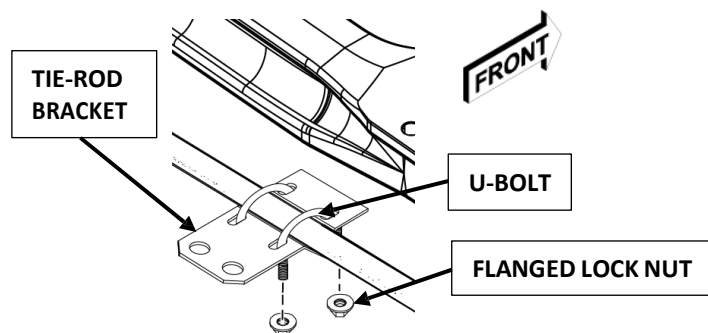

FIGURE 3. TIE-ROD BRACKET INSTALL TO TIE-ROD
- On passenger's side of Tie-Rod, place **Tie-Rod Bracket** on bottom of the Tie-Rod. With **U-Bolt** threads facing down, loosely install **Tie-Rod Bracket** onto Tie-Rod with two **U-Bolts** and four **Flanged Lock Nuts** (Figure 3).
9. Rotate **Tie-Rod Bracket** assembly until SAFE T PLUS® unit is parallel to Tie-Rod and is able to move freely without potential contact with any other parts on vehicle. Using a torque wrench with a 9/16-inch socket, torque four **Flanged Lock Nuts to 20 foot pounds** (*Figure 3*).
5. For the person outside of the vehicle, gain access to SAFE T PLUS® unit. Using a socket wrench with a 9/16-inch socket, and loosen **Flanged Lock Nuts** on Tie-Rod Bracket **U-Bolt** and allow the SAFE T PLUS® unit to freely move to its centered position. Once the SAFE T PLUS® unit rests at its centered position, using a torque wrench with a 9/16-inch socket, torque Tie-Rod Bracket **Flanged Lock Nuts** to **20 foot pounds** (*Figure 3*).
6. Repeat road test until vehicle is able to maintain a straight trajectory. If centering the SAFE T PLUS® unit requires more than 2 or 3 attempts, please contact our technical support team at (770) 322-8727 for further assistance.